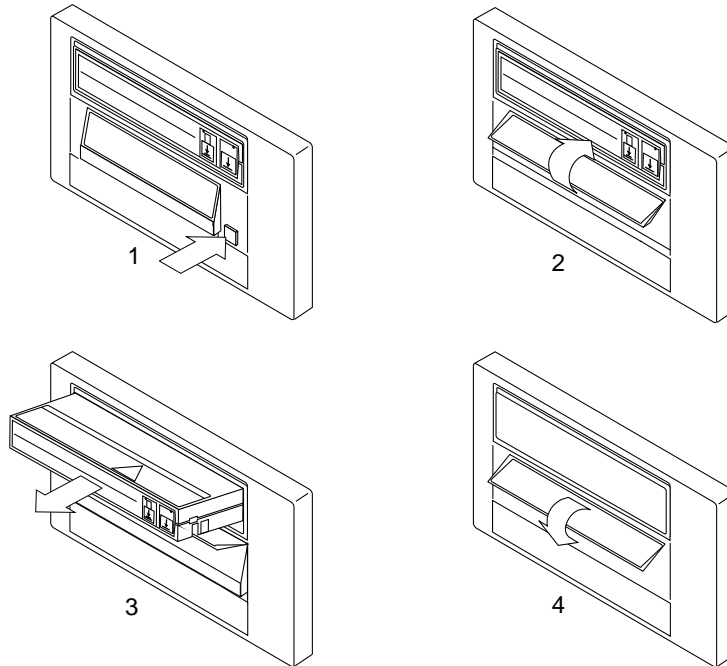

Figure 3-4 Unloading a Tape Cartridge
1. **Press the Unload button (Figure 3-4).**